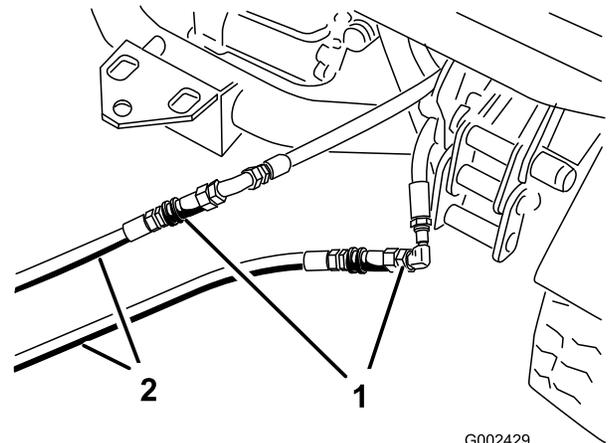

Figure 63
3. On the disabled vehicle, connect the two jumper hoses to the hoses that were disconnected (Figure 63). Cap the unused fittings.